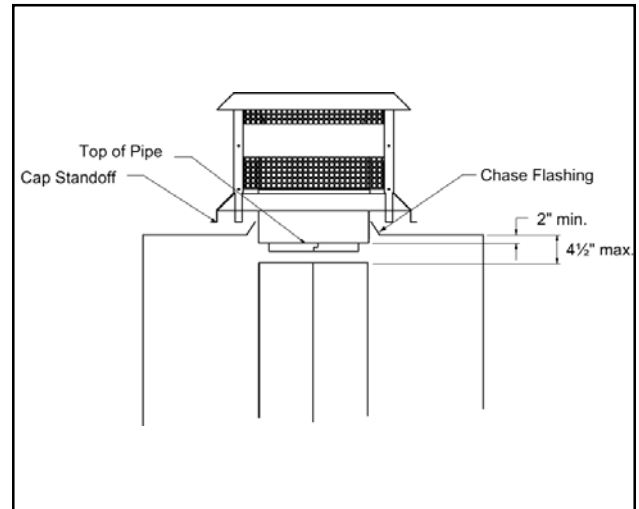

Figure 16
- c. For installations utilizing an ST1175 square termination cap the last chimney section must not be more than 4½" below the chase top. See Figure 16.